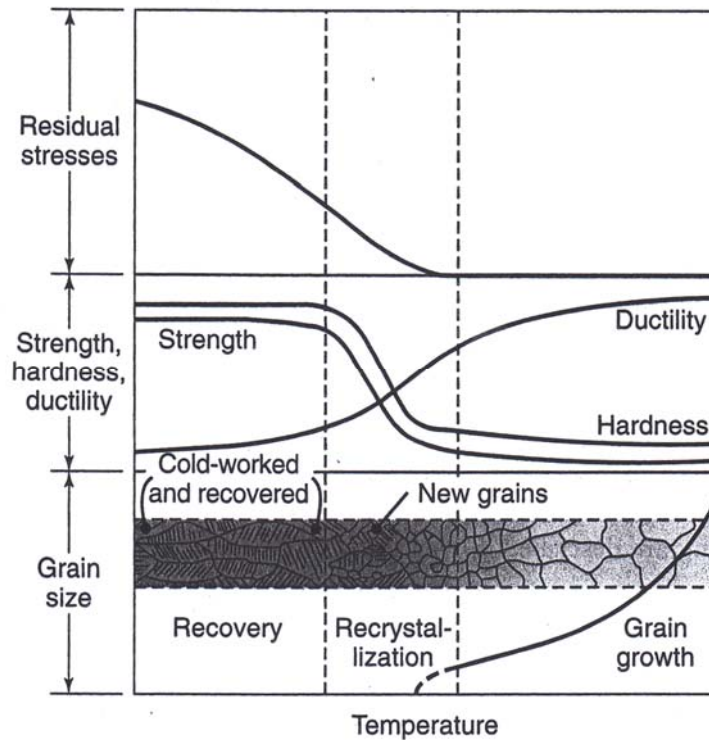

Figure Q4[a]
- Q4. [a] Plastic deformation at room temperature causes the deformation of grains and grain boundaries, which affect the strength and ductility. To reverse the effect, heating to a specific temperature for a specific period or annealing need to be performed. Discuss the THREE events i.e. recovery, recrystallization and grain growth during annealing as illustrated in Figure Q4[a].